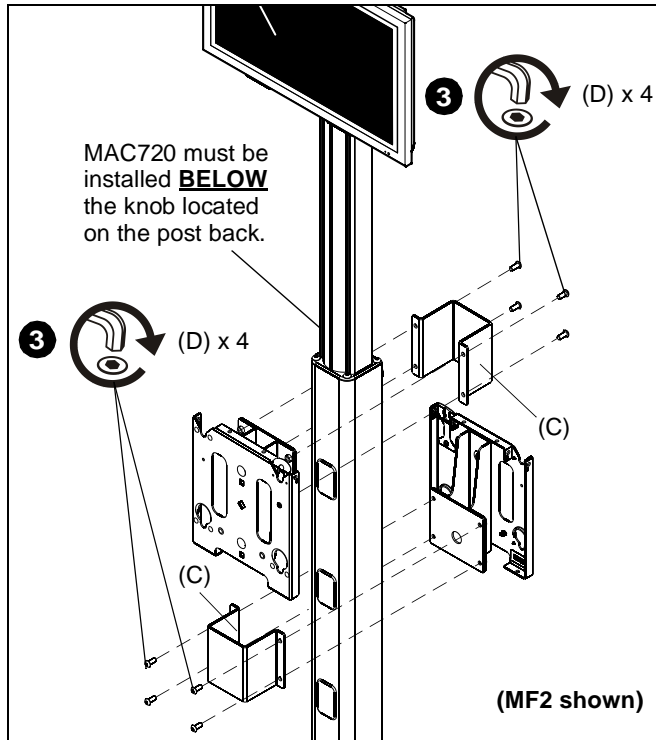

Figure 4
- Secure faceplate assemblies with bracket to clamp brackets (C) onto cart/stand post using four 5/16-18 x 3/4" buttonhead cap screws (D) on EACH assembly. (See Figure 4)